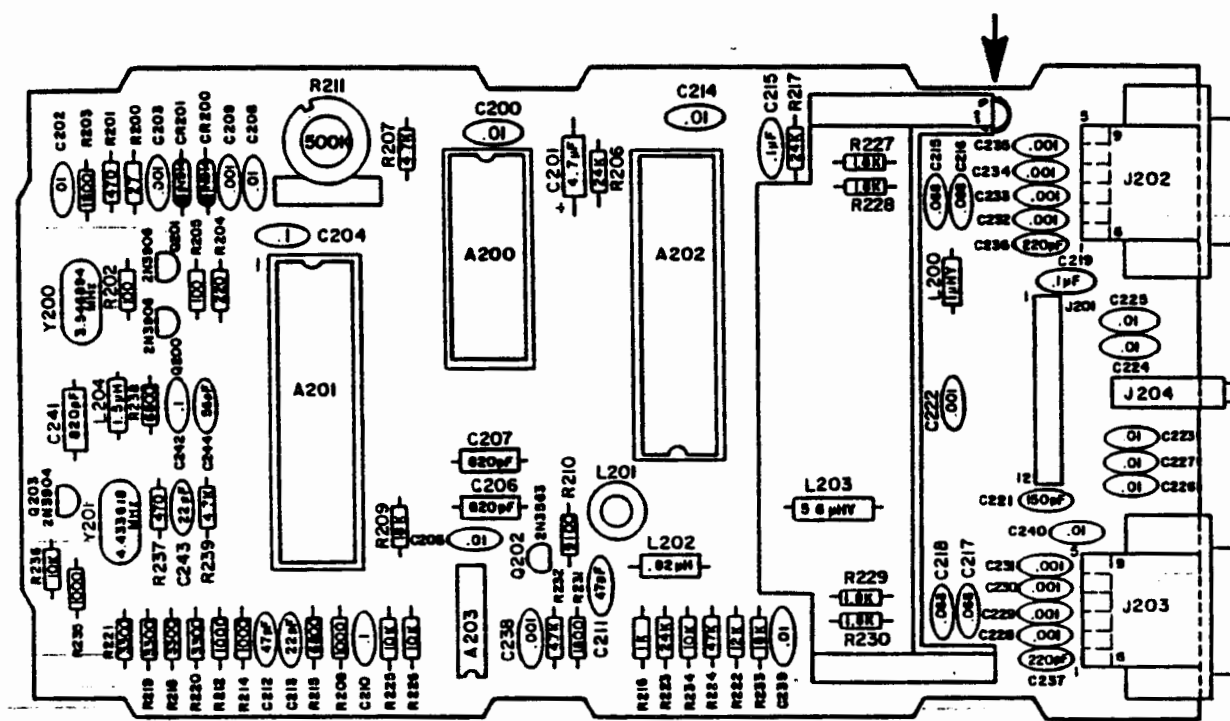

Figure 3-3. Location of Colored Dot Over Trace
- Ensure that motherboards (Rev. 8 or lower) have a colored dot over the trace on the upper-left corner of the board. This prevents shorting the board and the casting (See Figure 3-3).